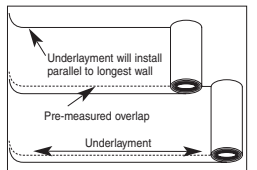

Figure 13
- The floating floor underlayment already has double-sided tape for ease of taping the precut overlapping seams (Figure 13). If a non-adhesive underlayment is used, tape all seams with the included tape.